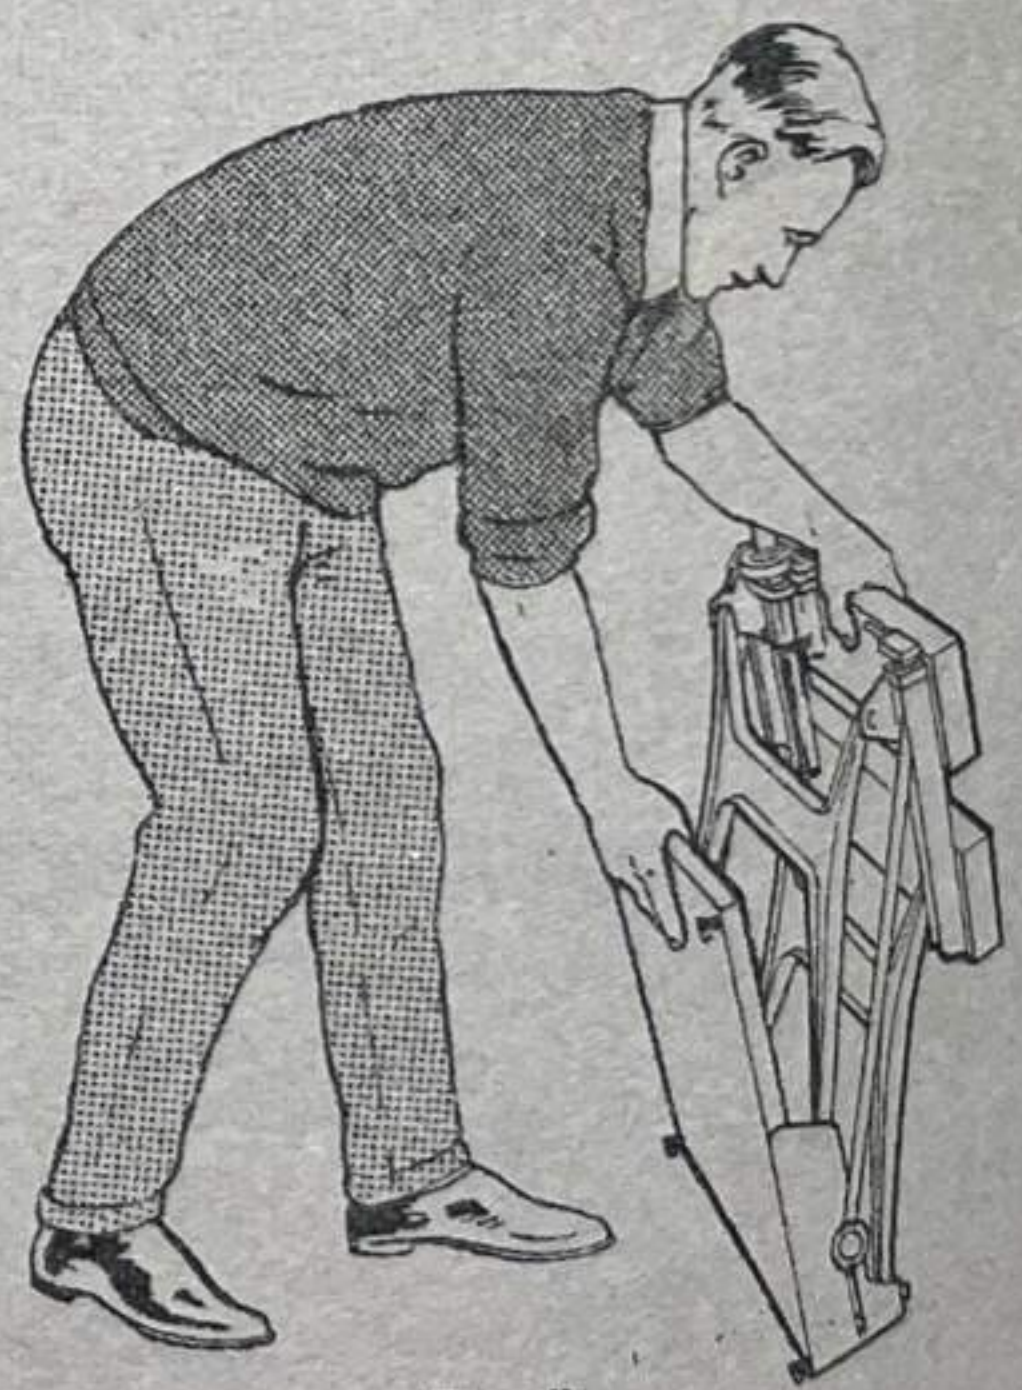

Fig. 4
3. Separate the top and the base by pulling the base towards you and downwards and simultaneously pushing the top backwards and up, as shown in Fig. 4.